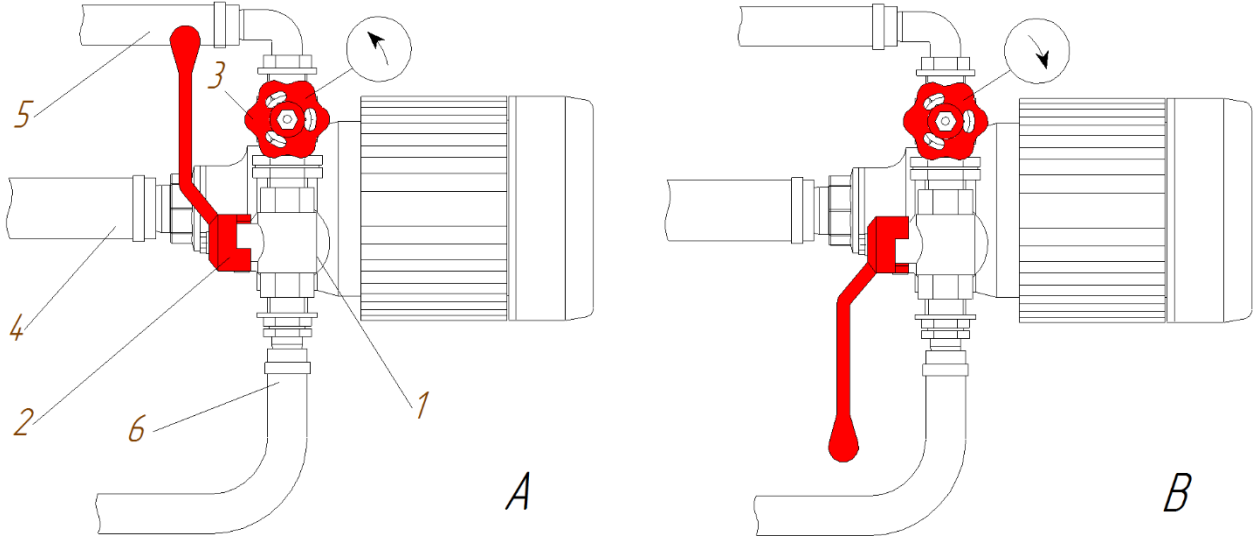

Figure 4.3
The pump unit (see Figure 4.3) consists of a vortex pump (RK-60) with an electrical drive and hydraulic communication. The three-way valve (2) regulates the fluid supply to the tank for the mixer (Figure 4.3 A) or the fluid discharge from the tank (Figure 4.3 B).